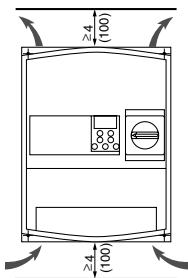

Figure 2: Minimum Clearances [in. (mm)]
- Figure 2 shows the minimum clearances required above and below the drive controller for unobstructed airflow. Leave sufficient free space to ensure that the air required for cooling purposes can circulate from the bottom to the top of the drive controller.